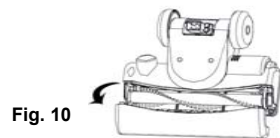

Fig. 10
4. Remove the brush cover. (Fig. 10)